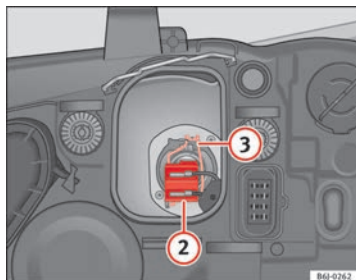

Fig. 153 Dipped beam headlights
- Remove connector ⇒ Fig. 153 ② from the bulb.
- Unclip the retainer spring ⇒ Fig. 153 ③ pressing inwards to the right.